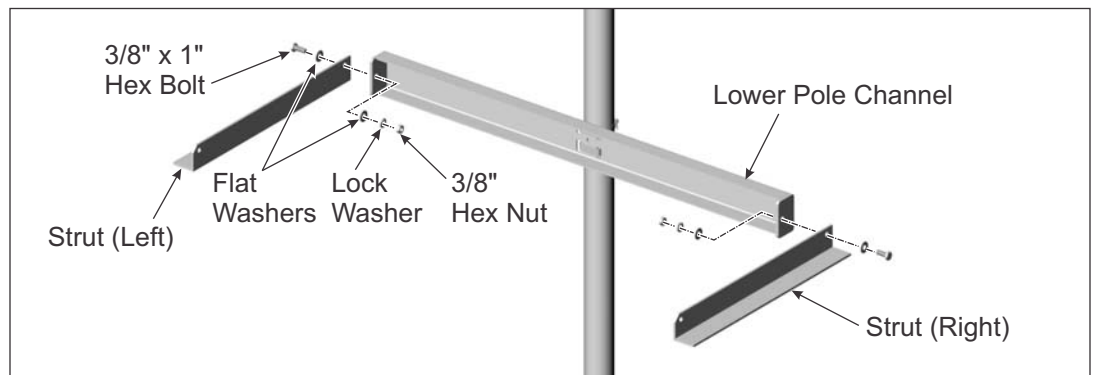

Figure 2-1: Attaching Module Arm to Pole Channel
The two Struts are attached to the ends of the lower Pole Channel using 3/8" x 1" hex bolts and hardware. (See Figure 2-1)
- A. Orient and align the left Strut as shown in Figure 2-1. Secure with one 3/8" x 1" hex bolt, lock washer, flat washers, and Hex Nut, finger tighten for now.